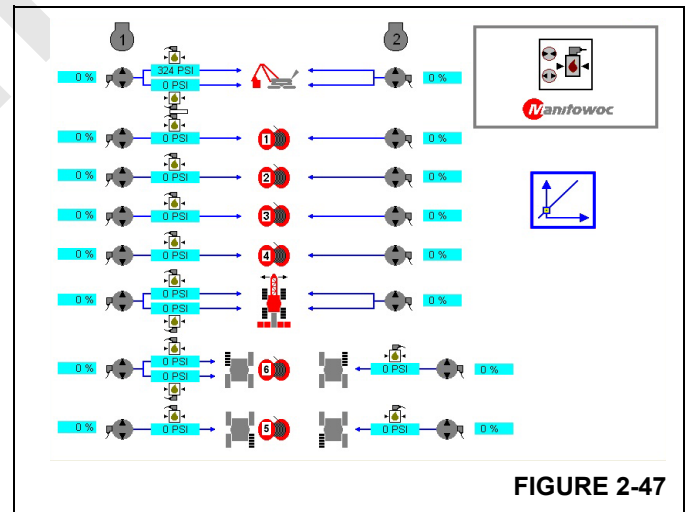

FIGURE 2-47
6. Then press  or  until a blue border appears around the icon shown (Figure 2-47).